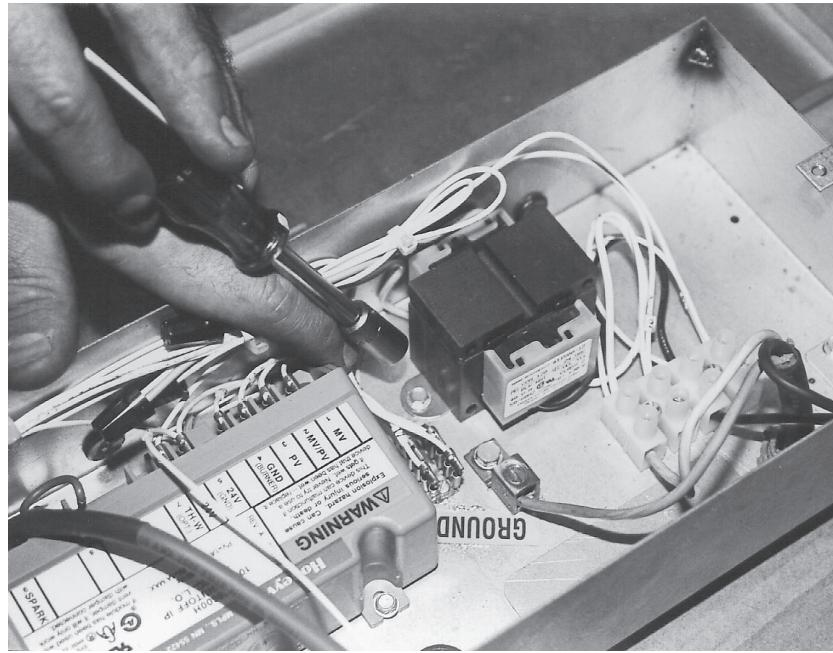

Fig. 85
4. With  $\frac{1}{4}$ " socket, remove (2) screws securing the transformer to the supply box. (Fig. 85)